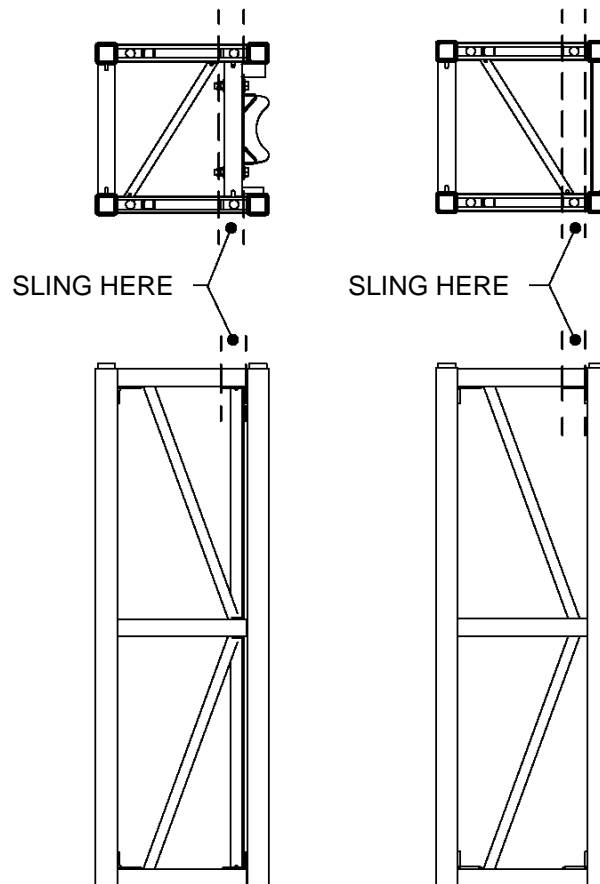

Figure 4
- 2- The lifting straps should be positioned on the rail side (ACT4, ACT8 and MP-8000) or climbing bars (FRSM 20K) where the holes for inserting the bolts are located to balance the load. (See figure 4 & 5)
2. See figure 4 or the appropriate user's manual to identify the base required for the type of elevating unit used.